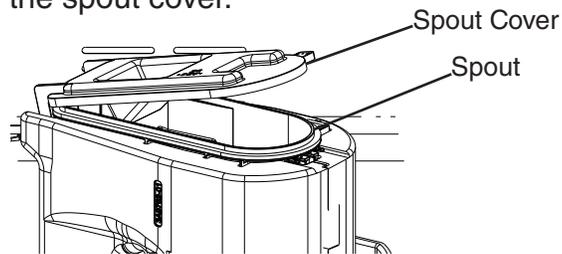

Fig. 17
- 6) "GM" LED and "COMP" LED are on. Open the spout cover slightly. See Fig. 17. "GM" LED and "COMP" LED turn off within 10 seconds and the control board sounds a 9 beep alarm. Close the spout cover.